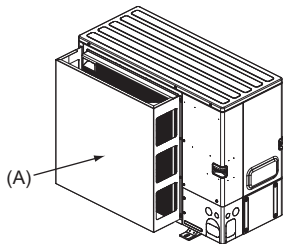

Fig. 2-5
(2) Install an optional air protection guide if the unit is installed in a location where strong winds from a typhoon, etc. may directly enter the air outlet. (Fig. 2-5)